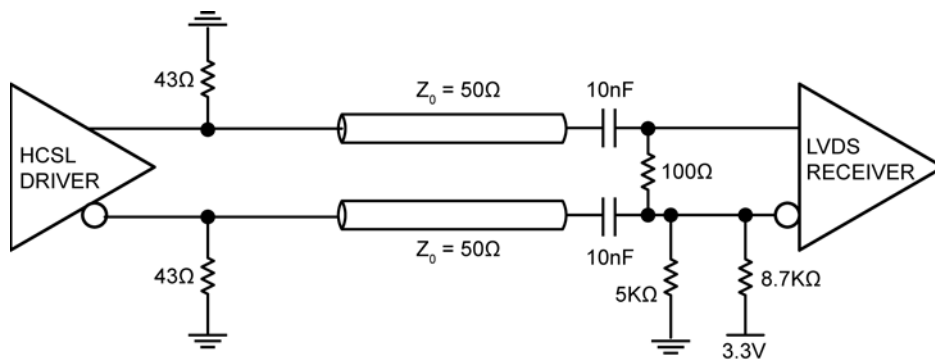

Figure 8. HCSL-to-LVDS Translation
In Figure 8, each of HCSL output pins switches between 0 and 14mA. When one output pin is low (0), the other is high (driving 14mA). The equivalent loading for HCSL driver is 48Ω parallel to 50Ω , which equates 23.11Ω . The swing level on the LVDS input is $14mA \times 23.11\Omega = 323mV$. A 10nF AC-coupled capacitor should be placed in front of the LVDS receiver to block DC level coming from the HCSL driver. After the AC-coupled capacitor is placed, re-biasing is required for the LVDS input and can be done by placing $8.7K\Omega$ resistor to 3.3V and $5K\Omega$ resistor to GND to achieve 1.2V DC level for the input common-mode of LVDS Receiver. If the LVDS receiver already has integrated a 100Ω resistor across the differential input pins, the external 100Ω resistor is not required.